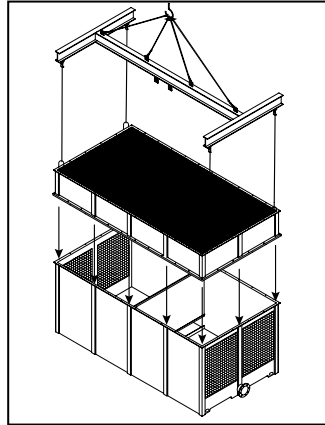

Figure A-85: Lower body section assembly for a modular tower (RTGM-D, RTGM-E, RTGMTC-G & RTGMTC-H)
- K. Only for RTGM-D, RTGM-E, RTGMTC-G & RTGMTC-H models:** Assemble Lower Body section #1 on top of basin section #1, make sure that the bolt holes on Lower Body section #1 are aligned with the perforations on basin section #1, then bolt down and secure the horizontal flanges with the stainless steel nut and bolt sets supplied by REYMSA (see Figure A-85).